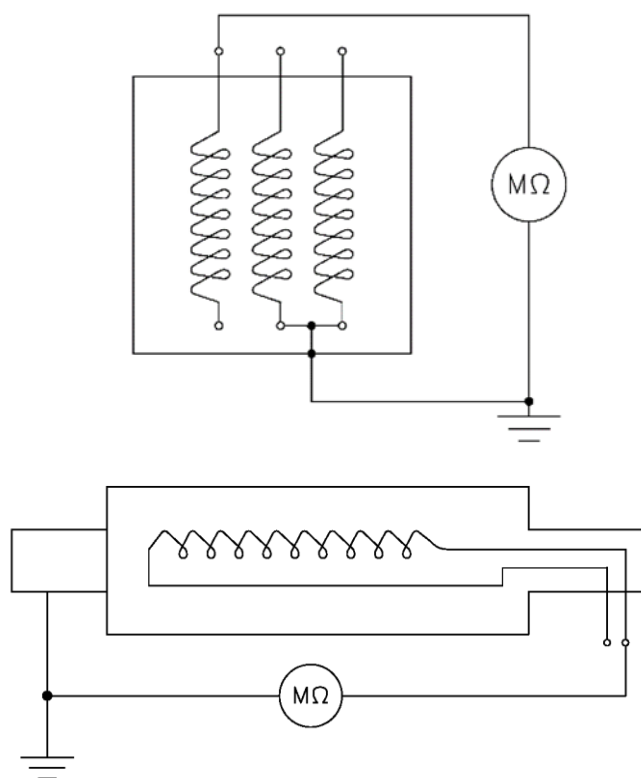

Figure 5-1
- **Main stator:** the measurement of the insulation resistance shall be executed after disconnecting the connections which go to the control devices (voltage control or other devices) or to any other device of the group. The measurement shall be executed between a phase and ground with the remaining two connected as well to ground together with the auxiliaries (operation to be repeated for all three phases). See Figure 5-1 Measurement of the insulation strength on the stator winding.